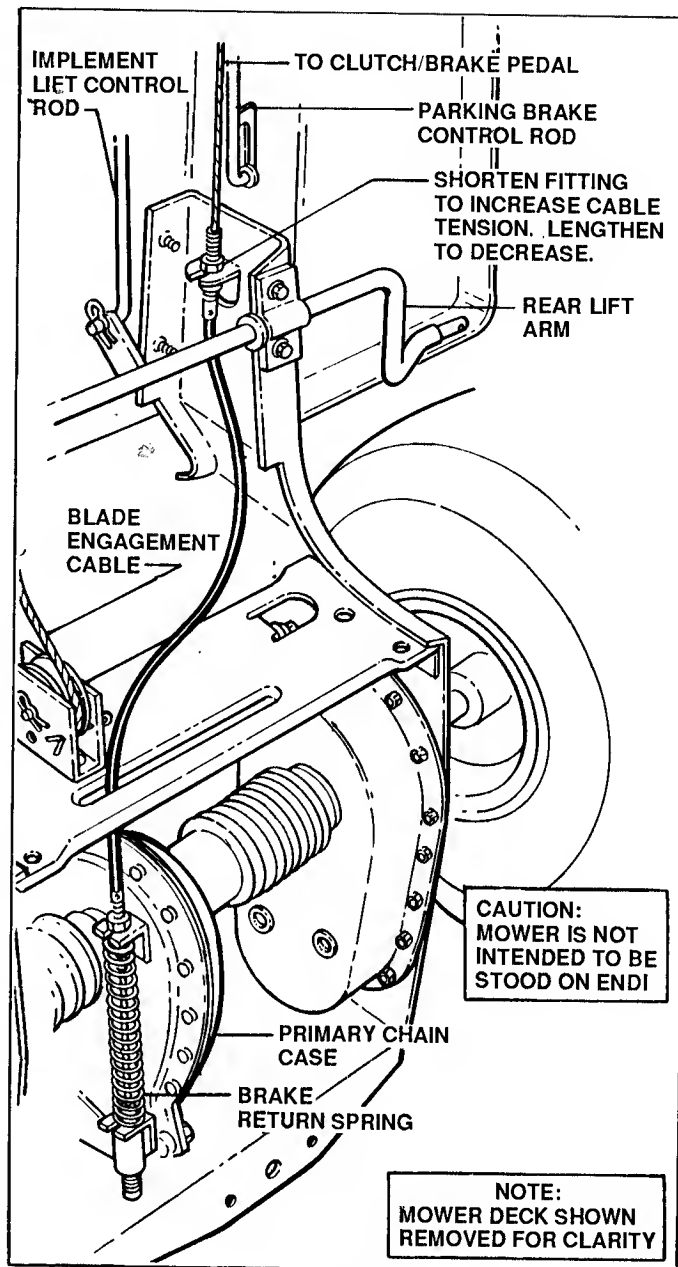

FIGURE 19
2. To adjust the braking action: Loosen Locknut and adjust the cable housing toward the rear of the mower to increase cable tension. See Figure 19.